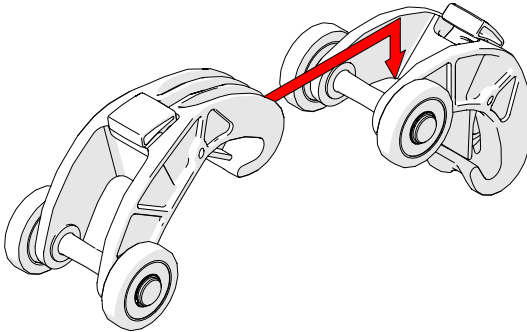

Fig. 46 - Lift the hook over the axle of the QuickLink
1. Lift the hook of the QuickLink over the axle of the QuickLink that is to be connected (Fig. 46).